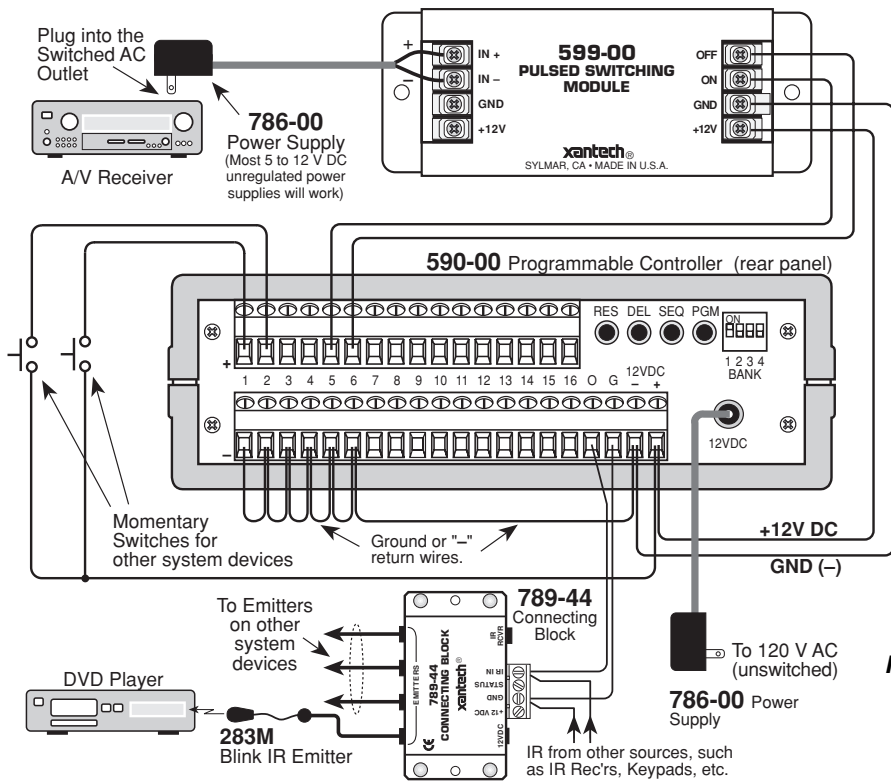

Fig. 2 Using a 599-00 to Trigger the Inputs on a 590 Programmable Controller
- This can be done by using the Model 599-00 connected as shown in **Fig. 2**.
- This short pulse operation, therefore, permits momentary switches connected to other inputs on the 590 (such as inputs 1 and 2, as in **Fig. 2**) to execute other system commands uninhibited.